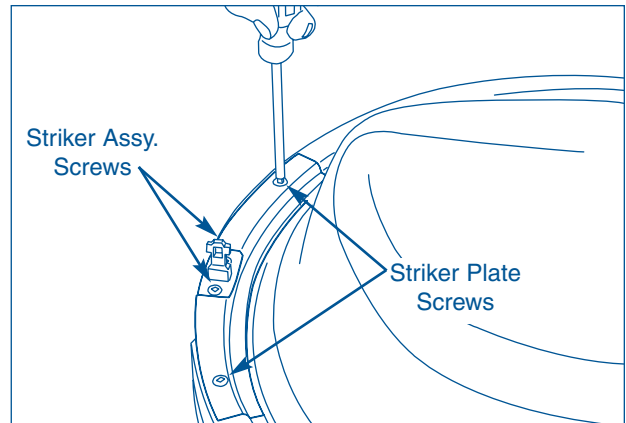

Figure 4-5.
1. Using a #2 square bit screwdriver, remove the two long, coarse thread, countersunk screws. (See Figure 4-5)
3. Using a #2 square bit screwdriver, remove the two countersunk screws securing the striker assembly to the striker plate. (See Figure 4-5)